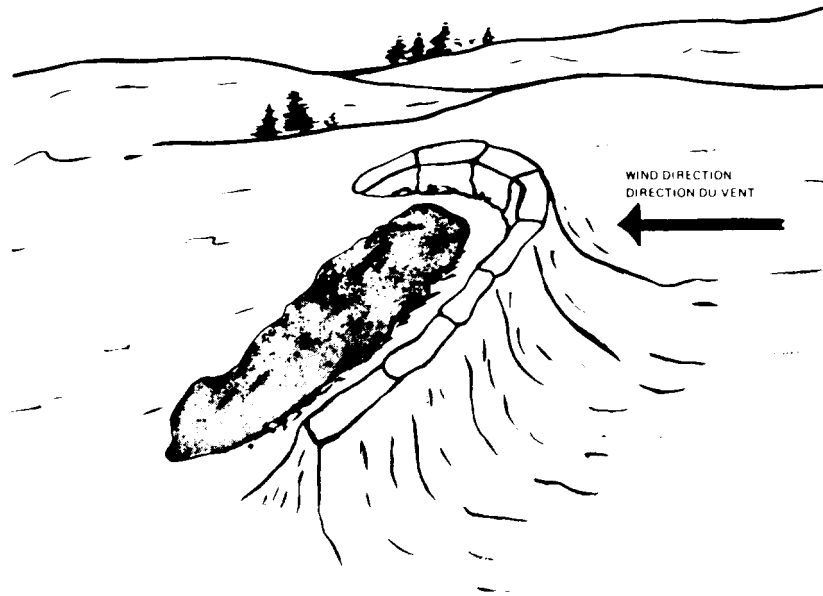

Figure 3-24 Sleeping Behind Snow Wall
4. Snow Walls. In open country when no other type of shelter is available, a snow wall can protect you from winds. Use snow blocks cut from compact snow and build a semi-circle to a height of about three feet. Bank up with loose snow on the windward side. This provides a windbreak behind which to sleep (see Figure 3-24).